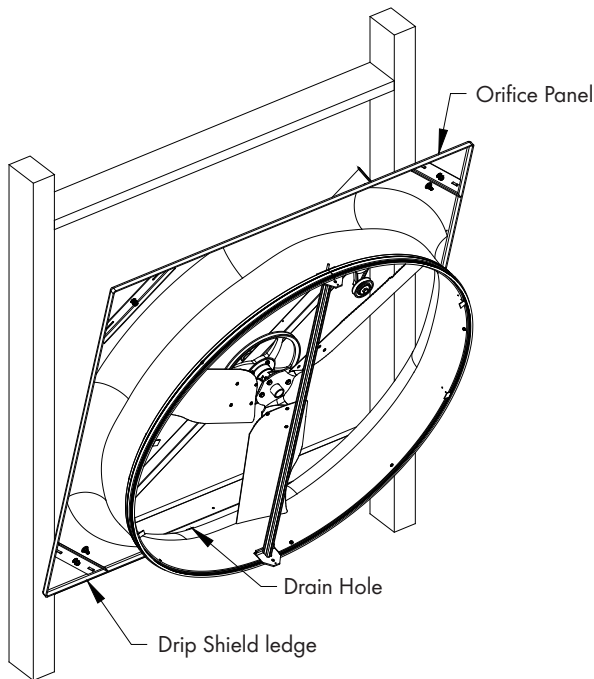

Figure 10A
Locate Drain Hole in Orifice Panel. This is the bottom of the Panel. Set bottom edge of panel on Drip Shield ledge and center panel on opening. Secure Panel to wall using (16) Barn Screws (Not Provided). See Figure 10A and 10B.